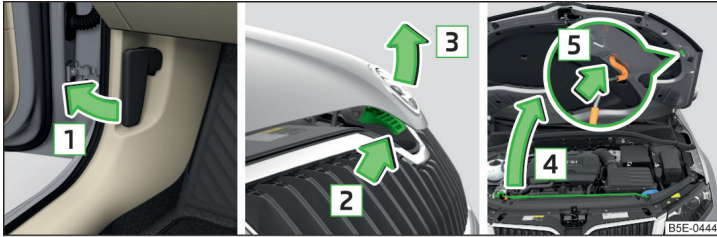

Fig. 184 Open the bonnet
- Pull the release lever underneath the dash panel in the direction of the arrow **1** » Fig. 184.
Never open the bonnet by the locking lever » Fig. 184.